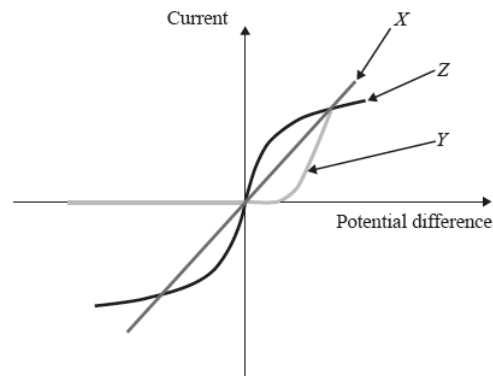

Fig. 4
- (b) Fig 4 shows current-potential difference curves (*X*, *Y* and *Z*) for three different components.